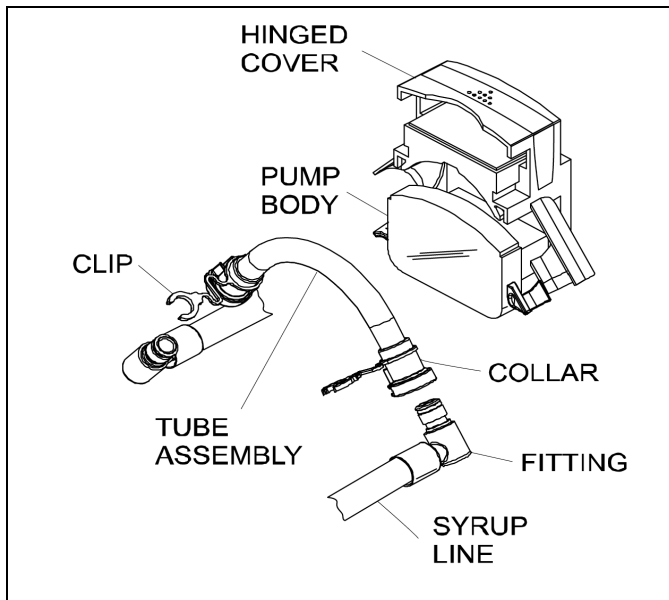

Figure-68
- Grasp the pump tube by both ends and remove it from the pump body. (See Figure-68.)